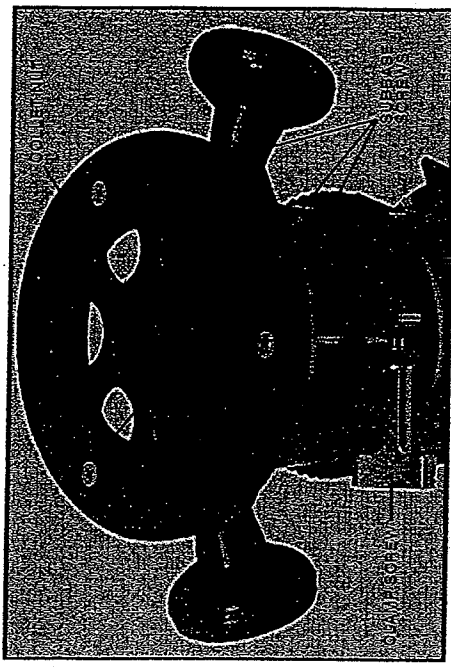

Fig. 6
2. Loosen clamp screw (see Fig. 6), and adjust motor so that the collet nut engages the center hole in the subbase. Allow the subbase to center itself on the collet nut. Tighten clamp screw.